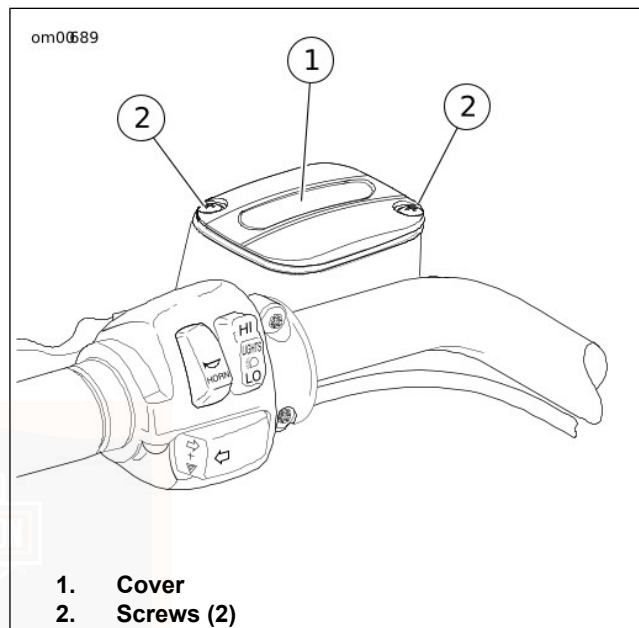

Figure 36. Clutch Master Cylinder Reservoir
2. See Figure 36. Clean all dirt and debris from the clutch master cylinder cover (1). Remove the two clutch master cylinder cover screws (2) and remove the cover.